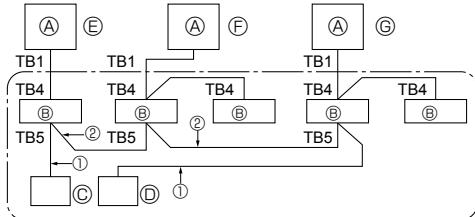

Fig. 9-1
① Supply power (circuit breaker).
- ② After the gas stop valve is closed, set the SWP switch on the control board of the outdoor unit to ON. The compressor (outdoor unit) and ventilators (indoor and outdoor units) start operating and refrigerant collecting operation begins. LED1 and LED2 on the control board of the outdoor unit are lit.
- ③ Because the unit automatically stops in about two to three minutes after the refrigerant collecting operation (LED1 and LED2 are lit), be sure to quickly close the gas stop valve. When LED1 and LED2 are lit and the outdoor unit is stopped, open the liquid stop valve completely, and then repeat step 2 after three minutes have passed.
- ④ Turn off the power supply (circuit breaker).
9. System control (Fig. 9-1)
⑤ SW 1 - 3 ~ 6	ON		Ⓐ Outdoor unit